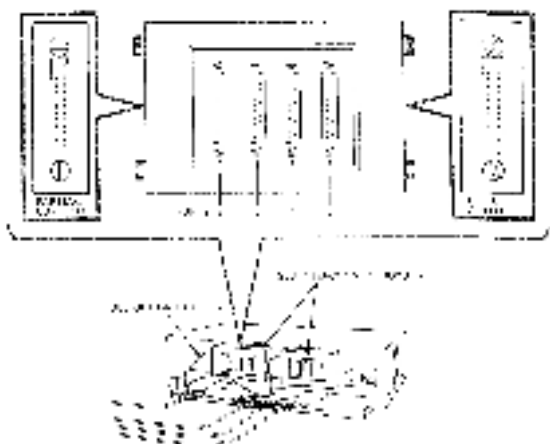

Figure 2-80 SLU Optical Cabling and Interconnect Box
3. Remove the communication cables) from the port connectors on the SLU Interconnect box mounted on back of the system unit (Figure 2-80).
5. Pull the SLU Interconnect box from the back of the system unit (Figure 2-80).